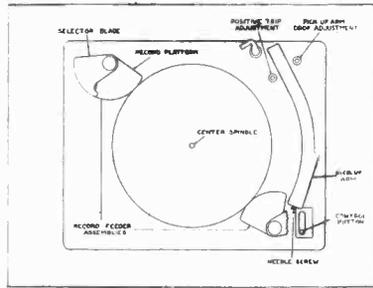

Fig. 1
2. Push the control button (see Fig. 1) to the "Rej." (Reject) position and release. The motor will start and the record changer will go into automatic operation.
Adjust the signal generator to 1630 KC and connect the output to the green antenna loop lead through a .0002 mica condenser. Set the gang condenser to minimum capacity and adjust the B.C. oscillator trimmer. (See Fig. 1) to receive this signal. The other broadcast band adjustments are made later.
Adjust the signal generator to 7000 KC and connect the output to the black antenna loop lead through a 400 ohm resistor. With the gang condenser at minimum capacity adjust the police oscillator trimmer. (See Fig. 1) to receive this signal. Set the signal generator to 5000 KC and adjust the police antenna trimmer to peak.
signal generator to 600 KC, tune the signal and then slowly increase or decrease the B.C. oscillator peaking condenser. (See Fig. 1) and at the same time continuously tune back and forth across the signal with the receiver until the maximum reading is obtained on the output meter.